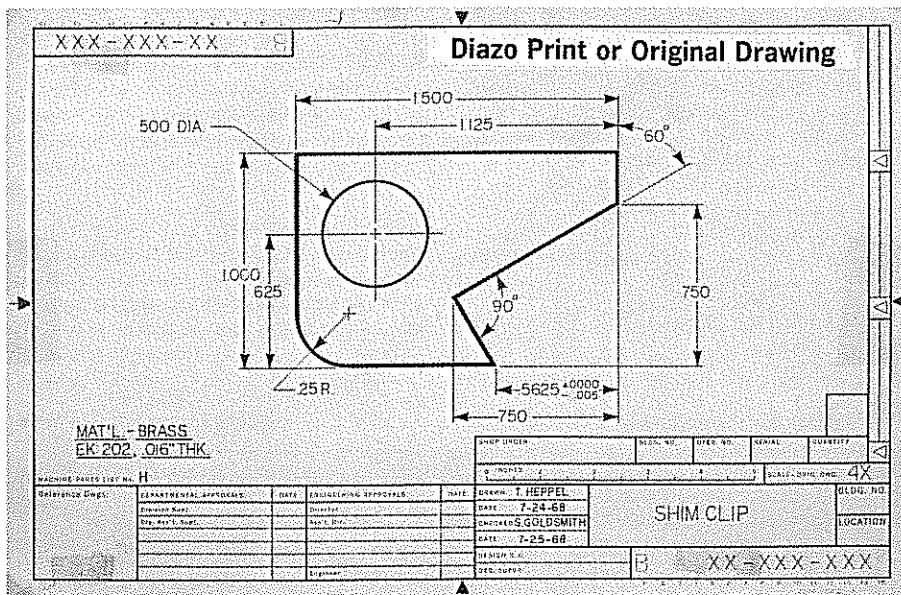
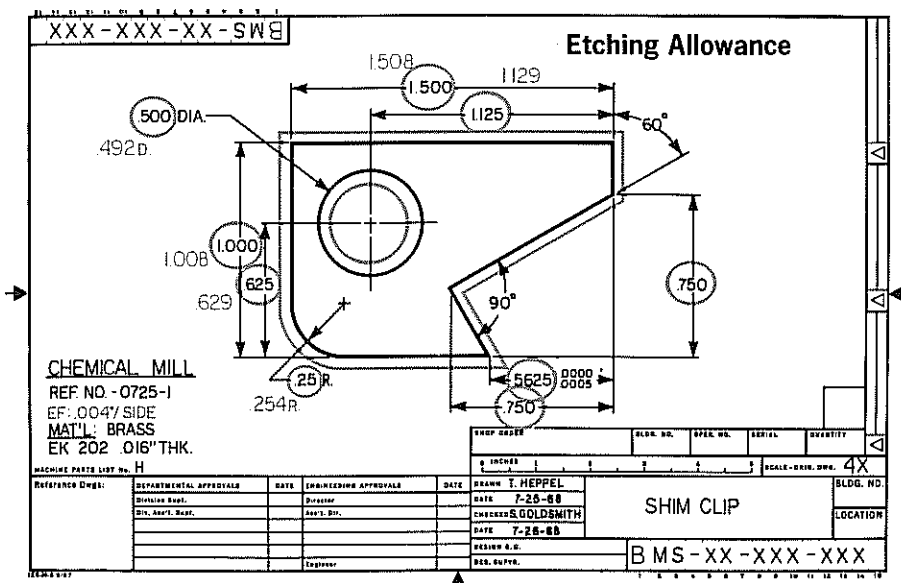
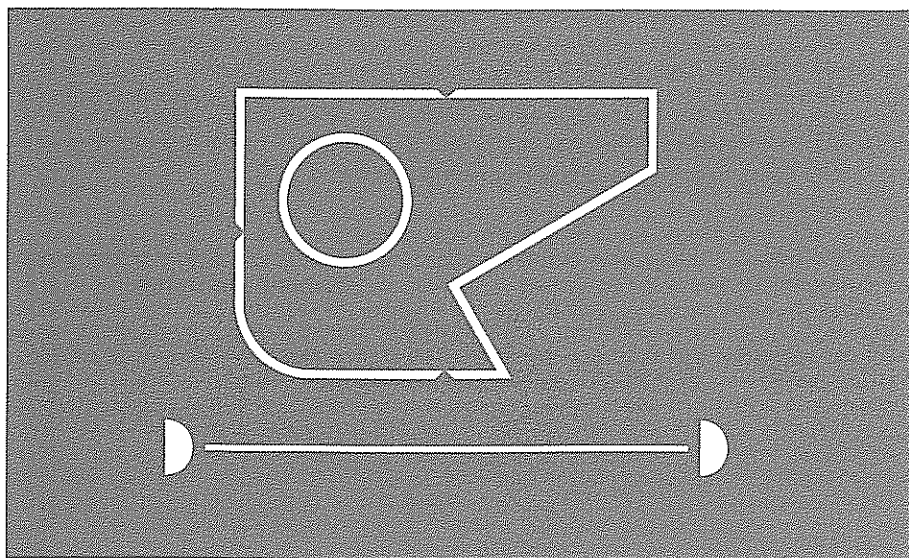

FIGURE 7: Finished parts dimensions appear on original drawing.
FIGURE 8: Etching allowances are computed and shown to assist in making artwork.
FIGURE 9: Artwork which will be photographically reduced
Think of each line in the original drawing as an edge, and the appropriate artwork compensation will be obvious. For a practical illustration of the compensations required, compare the original drawing of a part shown in Figure 7 with the compensations shown by an overlay in Figure 8. When the compensations are made and etch bands added, the finished artwork will look like the cut-and-peel master image shown in Figure 9.
One of the keys to consistent etching of high quality, chemically milled parts is the use of uniform "etch bands" as an outline for all part elements. In Figure 9, the artwork has been prepared with etch bands.
3. It is difficult to handle a sheet of parts when the material between has been nearly etched away leaving only a thin flexible web with sharp edges. With etch bands, the parts can be "tabbed" so that they will not fall from the sheet when the etching is completed. (See the artwork in Figure 9.)
Measuring the accuracy of artwork is much easier if a reduction scale is provided on the artwork (see Figure 9). For example, if a piece of artwork is 10 times the final size, it is recommended that two parallel lines, 10 inches apart, be drawn on the artwork. When the artwork is reduced to final size, the line will be one inch. This method will afford a greater degree of control on pattern dimensions.
From the master image shown in Figure 9, make the reduction as shown in Figure 11. Check the camera for proper alignment; then bring the image to accurate size. From previous tests, determine an approximate exposure level for KODAK PRECISION LINE Film LPF7.